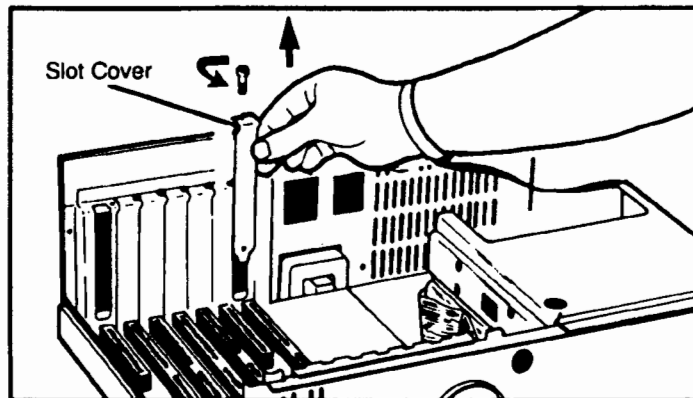

Figure 2-4. Removing the Slot Cover Screw
5. Remove the slot cover from the back of your computer by removing the screw which holds the slot cover in place. See figure 2-4.